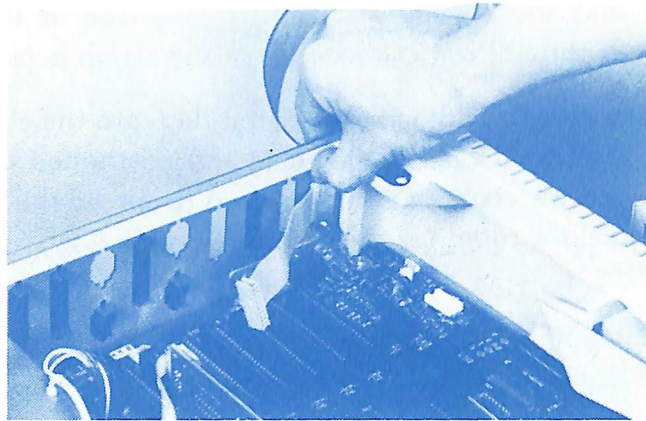

FIGURE 5 Positioning of the Clamp
- I) Hold the clamp against the opening with one hand as shown in Figure 5. Reach behind the computer with the other hand, and install screws through the two slots on the top and bottom of the opening into the nuts on the clamp.